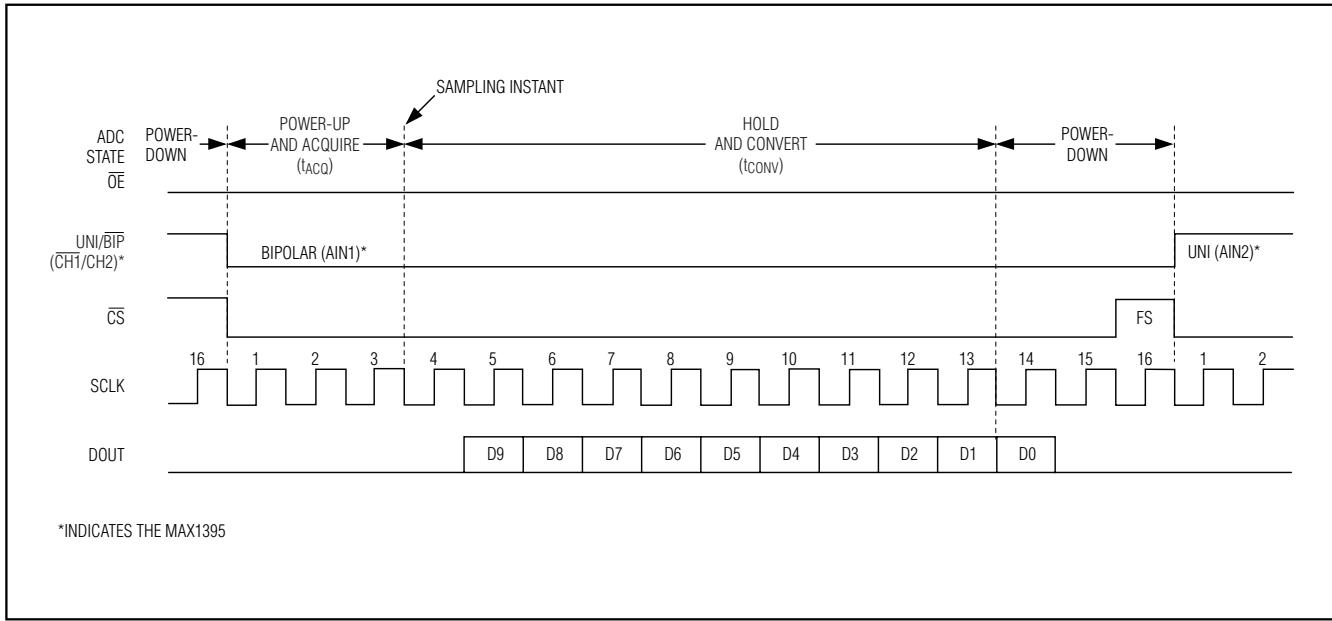
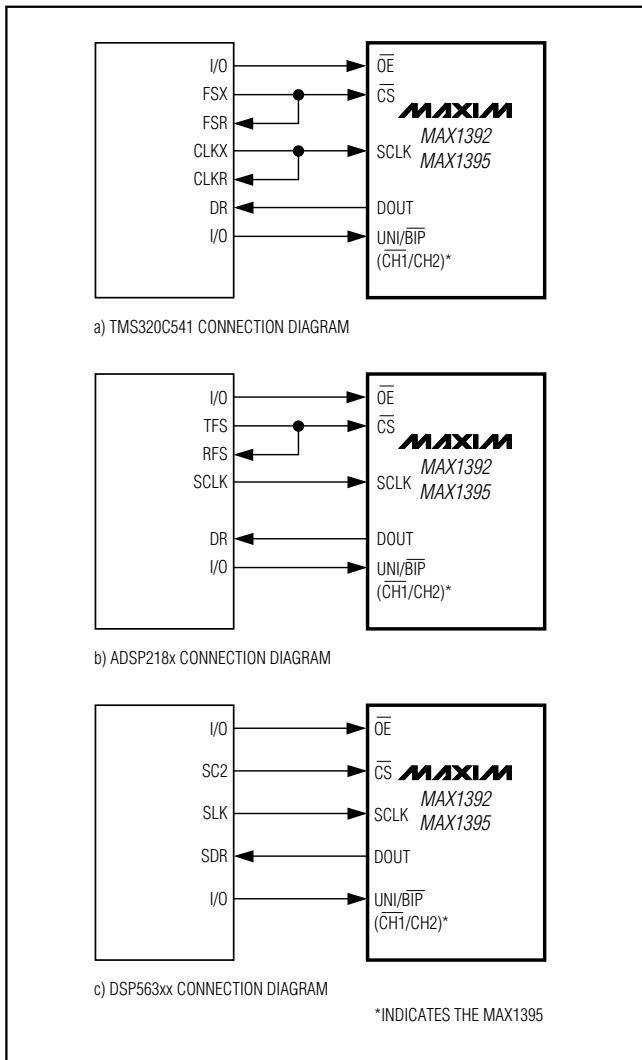

Figure 10. DSP Serial-Timing Diagram
Figure 11. Common DSP Connections to the MAX1392/MAX1395
Figure 10 shows the timing for DSP operation. Figure 11 shows the connections between the MAX1392/MAX1395 and several common DSPs.
As shown in Figure 11, drive the MAX1392/MAX1395 chip-select input (CS) with the DSP's frame-sync signal. OE may be connected to GND or driven independently. For continuous conversion operation, keep OE low and make the CS falling edge coincident with the 14th falling edge of the SCLK. Fourteen-bit data transfers can also be performed with compatible DSPs.